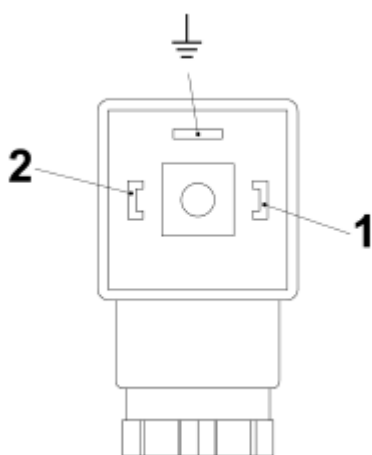
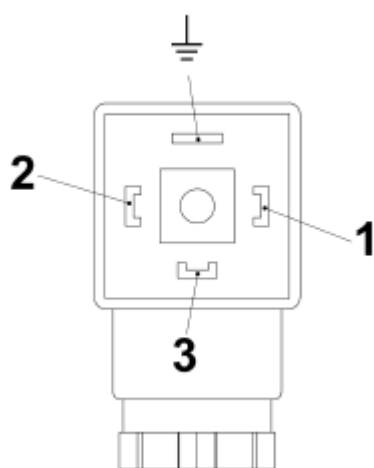

Fig. 25: Pin assignment, plug socket, Normally Open Contact (Form 30x70)
Fig. 26: Pin assignment, plug socket, Change-over contact (Form 30x70)
6. ▶ Make the connections as shown in the connection diagram (Fig. 25 and Fig. 26)